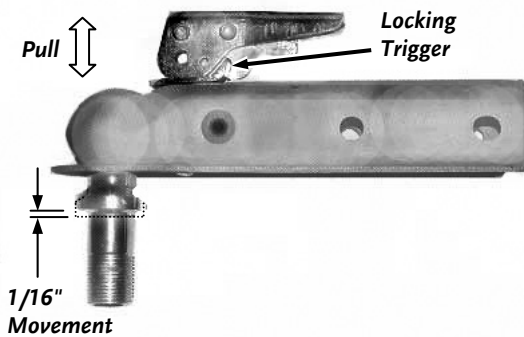

Figure 47
1. Place a 2" Ball in the Socket of the Coupler and close the Latch Assembly (**Figure 47**). Verify that the Locking Trigger is properly engaged in its detent.